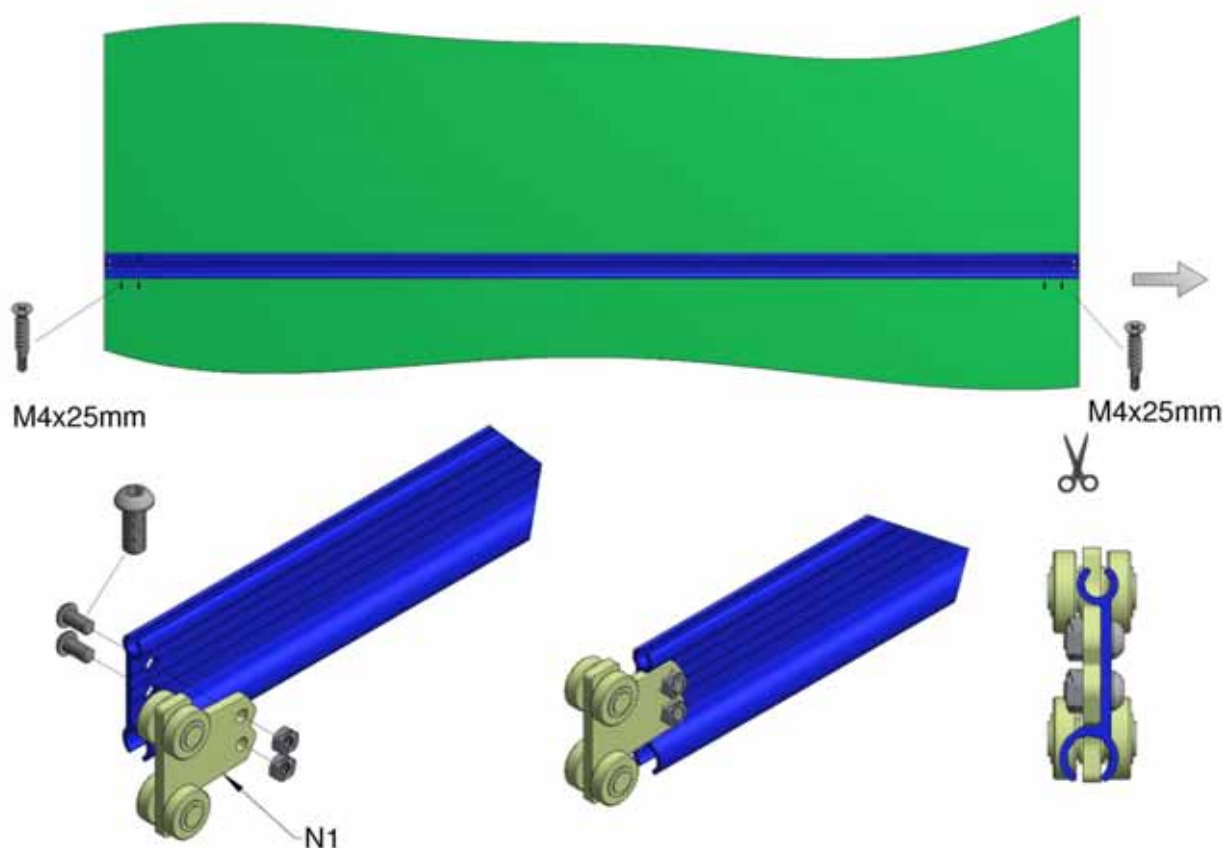

Figure 9, Securing Fabric
7. Slide the second panel and tension bar onto the assembly, align the panel flush with the end of the first tension bar and secure with the M4x25mm countersunk screws. At the other end, tension the panel to remove any creases and secure with the M4x25 screws as shown in Figure 9. Repeat with the next tension bar and trim the panel to length.
8. Attach a trolley (N1) to each end of the tension bar using the M8x16 dome head screws and nuts. Ensure the trolleys are fitted as shown in Figure 9.